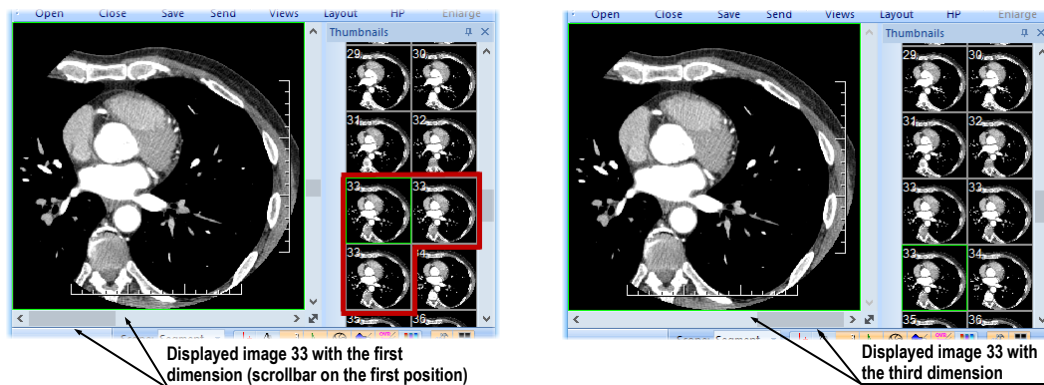

Figure 135 – Displayed image with the first and the third dimension in the current view
- Move to the next/previous image that has the same dimension as the dimension of the image displayed in the current view by scrolling with the mouse wheel or using the vertical scrollbar. The dimension will be achieved and the image will skip to the nearest image in the series (see Figure 135).